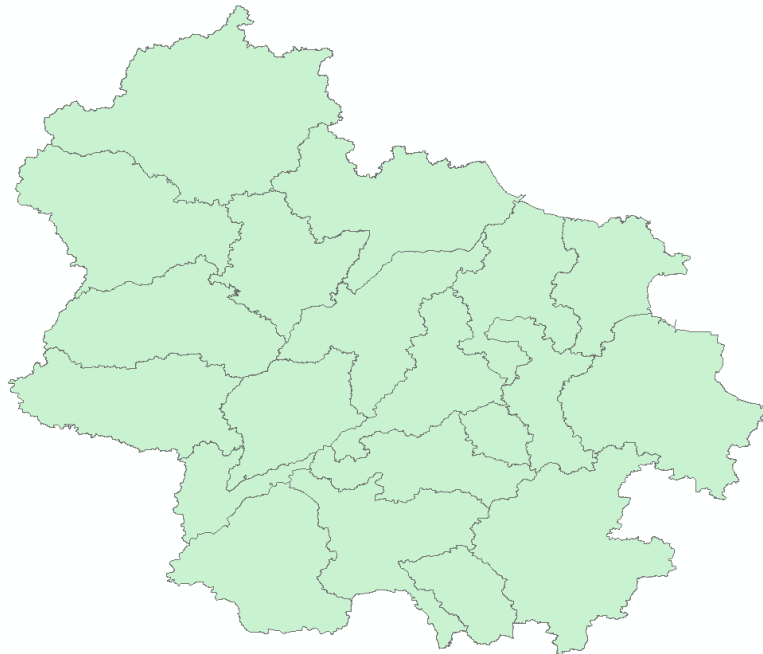

Fig. 42 Pooled Grid Definition
- Click the file buttons  which correspond to **Pooled Grid Definition**, **CFG configuration file** and **APV configuration file** and then open them, as shown in the Fig. . And the details of Pooled Grid Definition is shown in Fig.42.